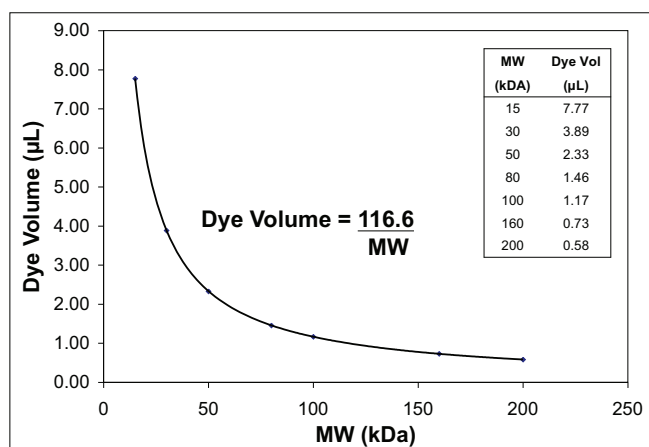

Figure 2. Suggested dye amounts based on protein molecular weight.
- Use Figure 2 to determine the appropriate amount of dye to add based on the molecular weight of your protein.
- Using the dye amounts shown in Figure 2 typically results in a D/P ratio of 1:1 to 3:1.